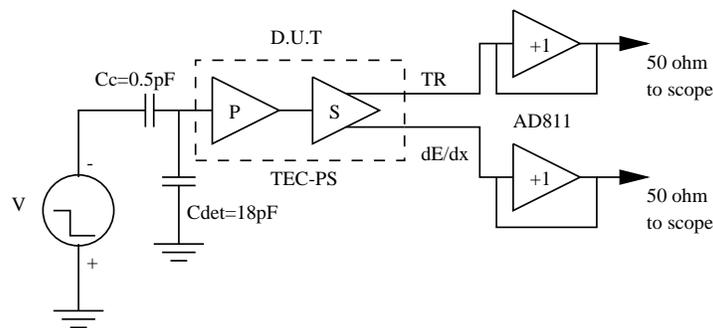

Fig 11. Test Setup for Electrical parameter measurement.
The power supply numbers above correspond to the multi-channel chip (8) and not a single channel. The electrical parameters were obtained under the following test conditions. Vdd = +2.5 V; Vss = -2.5V; REF1 = 0V; REF2 = 0V Each channel was tested by injecting a known charge, by applying a voltage step to the internal calibration capacitors, and the output was observed using a scope terminated at 50 Ω, The TR and dE/dx output was buffered using analog devices AD811, with a Gain = +1, operating from ±15V. The block diagram of the test setup is shown in figure 11.